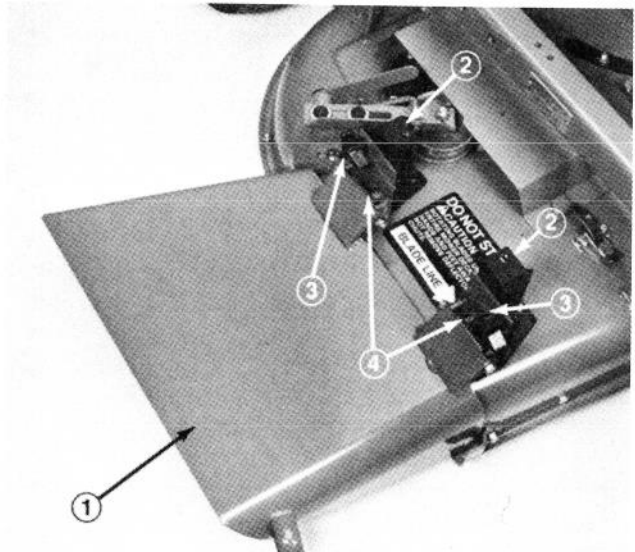

Figure 17
8. To remove blower assembly, disengage idler assembly, remove belt cover and lift belt off spindle pulley. Remove (2) knobs and washers securing blower to mounting brackets and remove blower and chute. Slide cutting unit grass deflector onto alignment bolts and secure to mounting brackets with knobs and washers. Install belt cover (Fig. 17).